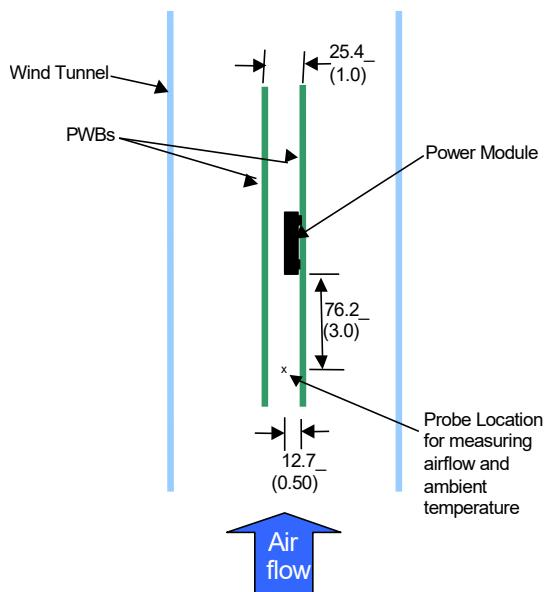

Figure 28. Thermal Test Setup.
Power modules operate in a variety of thermal environments; however, sufficient cooling should always be provided to help ensure reliable operation. Considerations include ambient temperature, airflow, module power dissipation, and the need for increased reliability. A reduction in the operating temperature of the module will result in an increase in reliability. The thermal data presented here is based on physical measurements taken in a wind tunnel. The test set-up is shown in Figure 28. The preferred airflow direction for cooling the module and the thermal reference points, Tref used in the specifications are shown in Figure 29. For reliable operation the temperatures at these points should not exceed 120°C (IC200) and 115°C (C202). The output power of the module should not exceed the rated power of the module ($V_{o,\text{set}} \times I_{o,\text{max}}$). Please refer to the Application Note "Thermal Characterization Process for Open-Frame Board-Mounted Power Modules" for a detailed discussion of thermal aspects including maximum device temperatures. Increased airflow over the module enhances the heat transfer via convection. The thermal derating of figures 2, 8, 14 and 20 show the maximum output current that can be delivered by each module in the indicated orientation without exceeding the maximum Tref temperature versus local ambient temperature (TA) for several air flow conditions. The thermal derating curves were generated using a 12 layer evaluation board with 3oz copper in inner layers and 2 oz in outer layers.